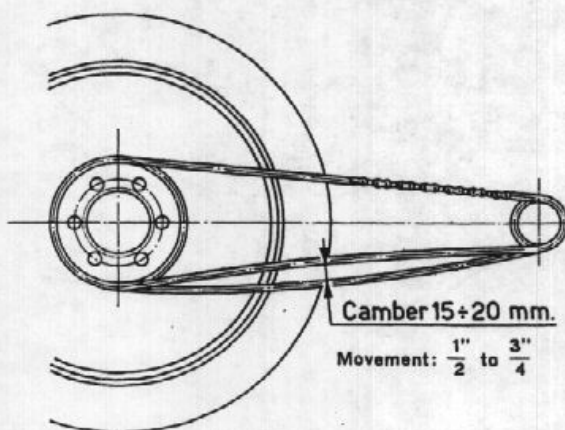

Fig. 129
**NOTE!** - When the machine is on the ground and one person is sitting on the rear portion of the saddle (or the rear shocks are halfway depressed), the chain should be 15 to 20 mm. ( $\frac{1}{4}$ " -  $\frac{3}{4}$ ") loose to allow swinging arm movement. (See Figure 129).